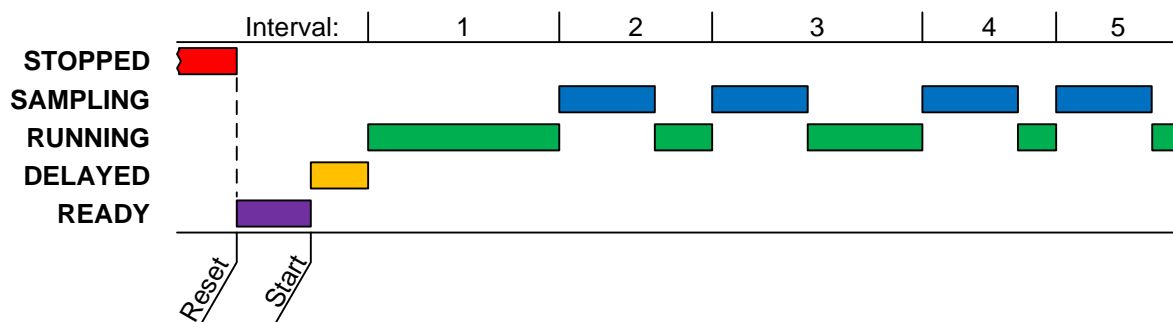

Figure A-3: Basic Sample Timing Diagram
- If a non-zero value (up to 9999 minutes) has been assigned to the Delay Start run Option (see page 44), the first sampling interval will be further delayed by that many minutes (see Figure A-3 on page 80). Until then, the program will display its operating state as DELAYED.